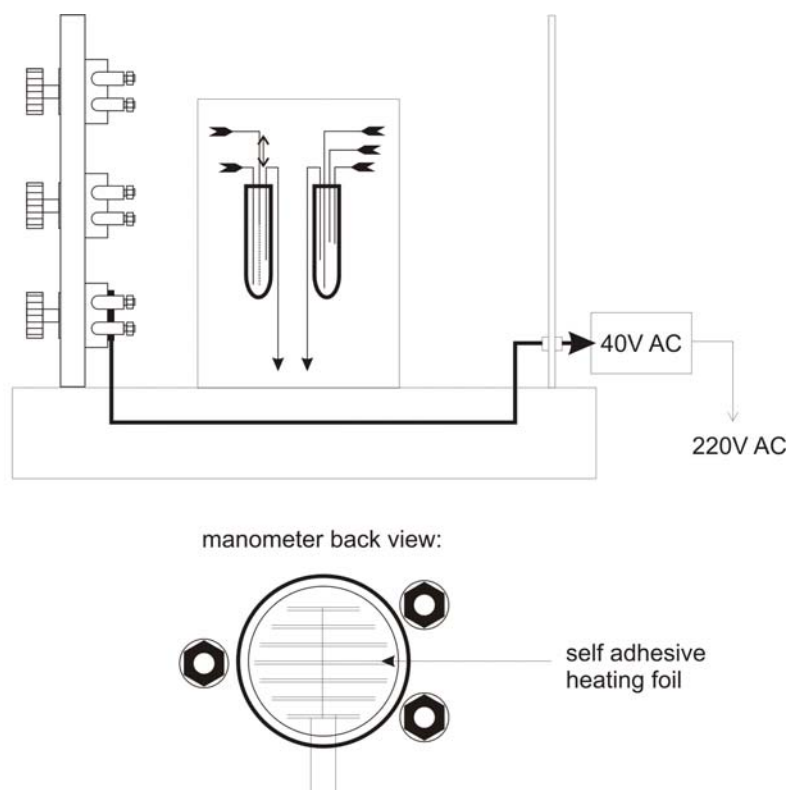

Figure 7-3. Installing self-adhesive heating foil
2. Install the self-adhesive heating foil as outlined in “Installing Self-Adhesive Heating Foil” on page 7-6 and especially in Figure 7-3.
2. Paste the heating foil in the middle of the rear side of the manometer (of Ref 2) as shown in Figure 7-3.